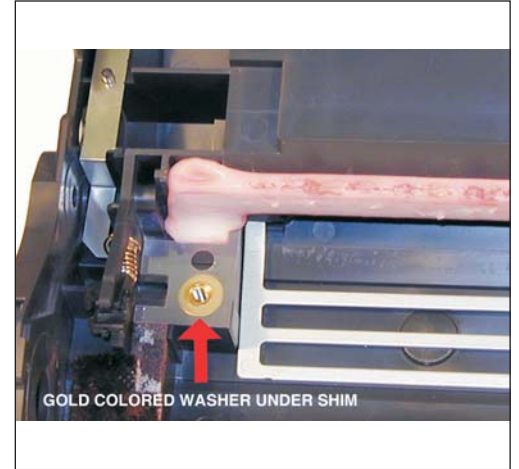

Figure 38
19) Install the shims and washer (if present), in their correct places. Make sure the tab of the shim is touching the foam so that a good seal is made. See Figure 38